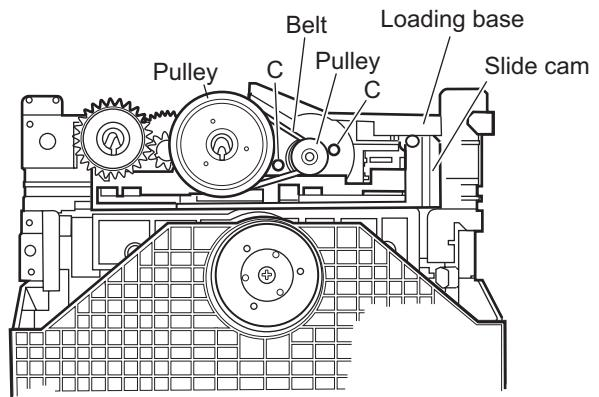
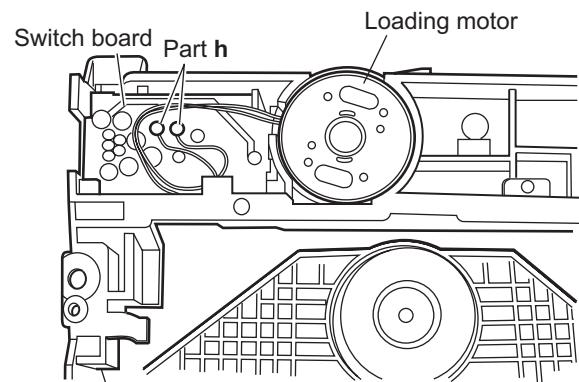

Fig.10
Fig.11
3.2.4 Removing the loading motor (See Figure 10 and Figure 11)